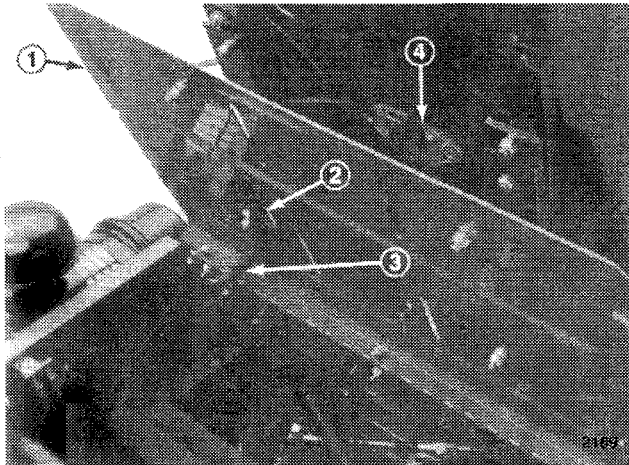

Figure 1
1. Position seat assembly onto seat plate aligning mounting holes (Fig. 1).
2. Slide wire clamp over seat switch wire (Fig. 1).
3. Using left front hole, loosely secure wire clamp and seat to seat base with capscrews and lock nuts (Fig. 1).
4. Mount seat to seat base with (3) remaining bolts and lock nuts.
5. Route seat switch wire thru slot in seat plate and plug connector onto seat switch (Fig. 1).